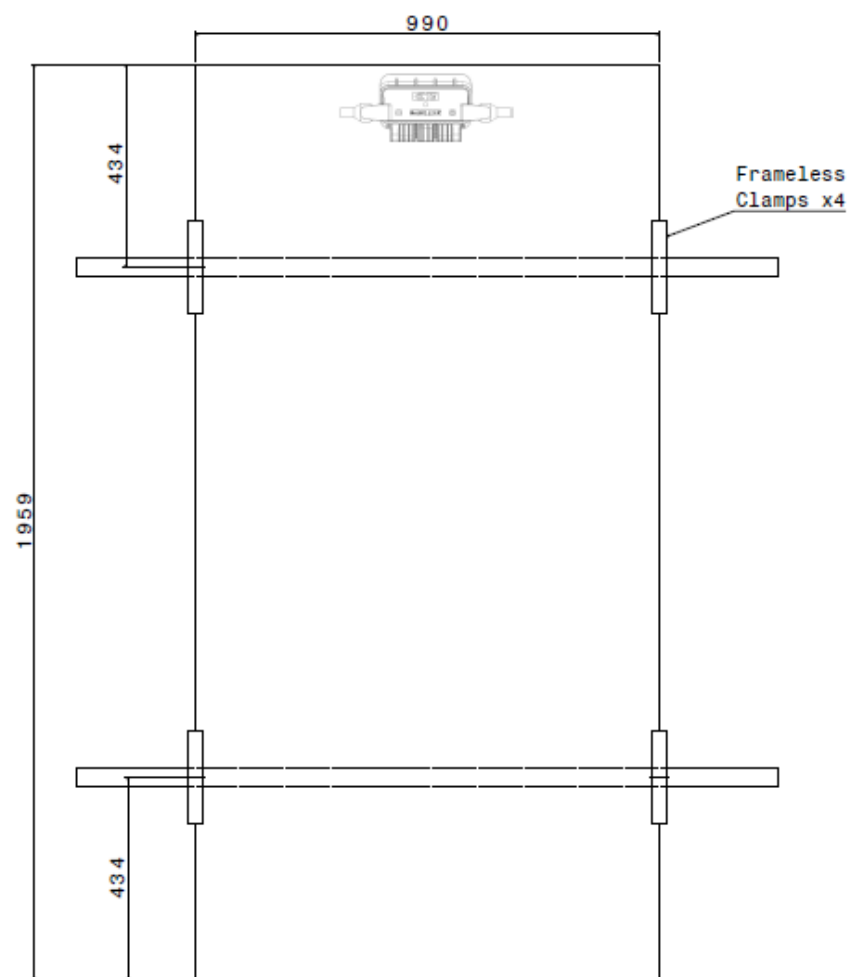

Figure 1 (Perpendicular Orientation)
- For flush-mount residential applications, the modules can be mounted with rails running across the modules as shown in Figure 1. Clamp length should be equal to or greater than 120mm.